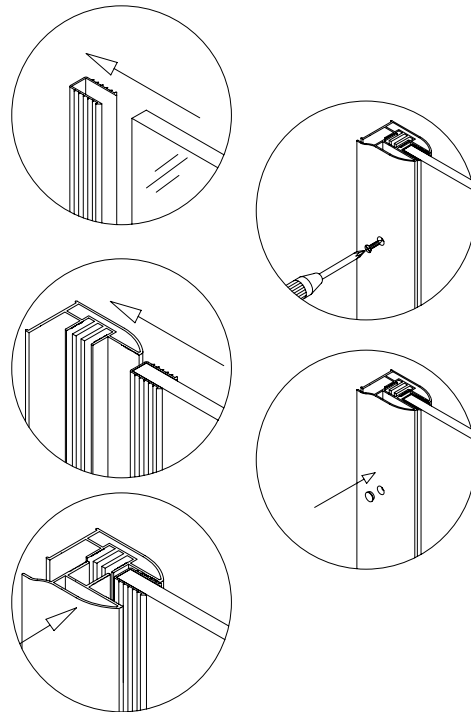

Fig 2
2. Attach the second part of **glass profile (01)** to the wall profile using **ST4.2x18 round self tapping screws (11)** slightly fasten the profile. Have out the stationary glass panel. Place a **U-shape gasket (16)** on the long (vertical) side of the glass panel; then fit the glass with the gasket into the assembled wall profile, then fasten it tight (fig 2).